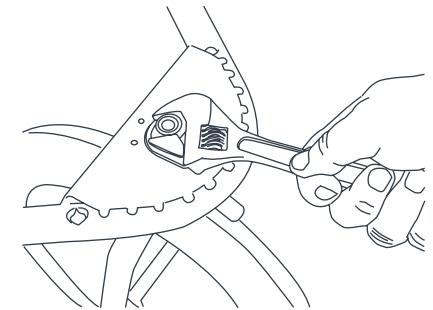

Fig. 21
21) • If you experience front wheel wobble that is beyond what is normal for use while walking or jogging you may have to adjust the front wheel housing nut. This nut is located under the footrest located at the front of the jogger. You can use crescent, box, or open end wrench to tighten the nut (Fig. 21). **DO NOT OVER TIGHTEN** this can cause damage to the wheel housing.